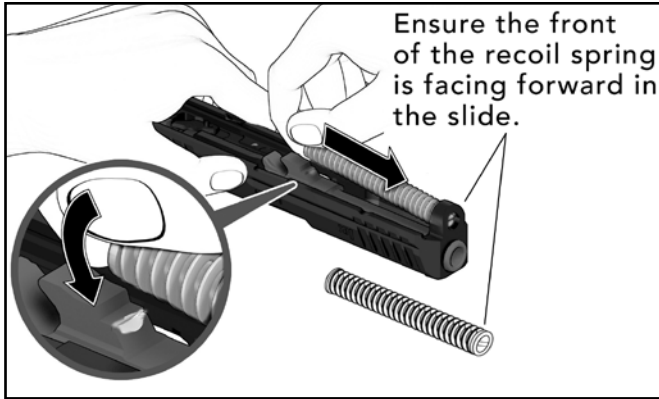

Figure 26 – Reassembling the recoil spring onto the barrel and slide
4. Push the recoil spring forward into position, compressing the recoil spring, then pivot the back of the recoil spring guide rod on to the stepped mounting surface located on the front of the barrel locking lug (see Figure 26). Ensure the front of the recoil spring is facing forward in the slide.